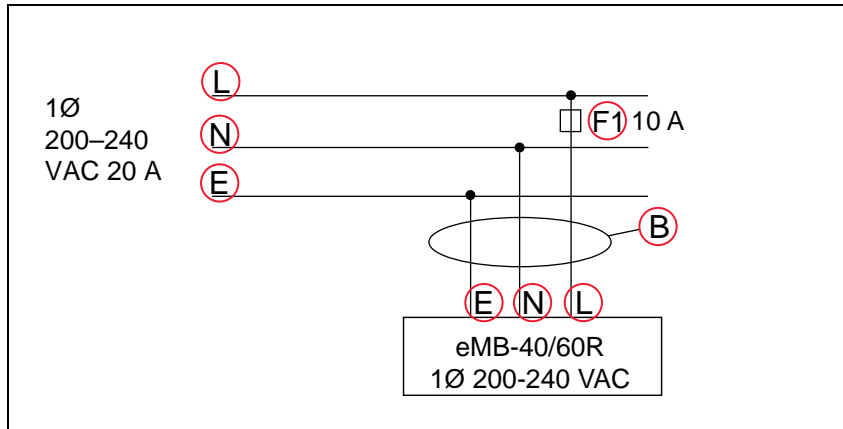

Figure 5-11. Typical AC Power Installation with Single-Phase Supply
1. Connect the unterminated end of the AC power cable to your facility AC power source. See Figure 5-11. and Figure 5-12.